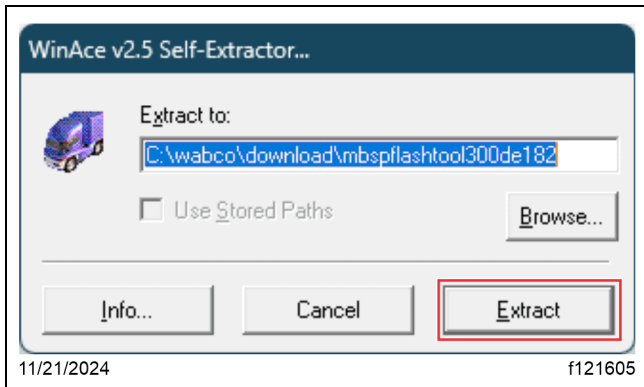
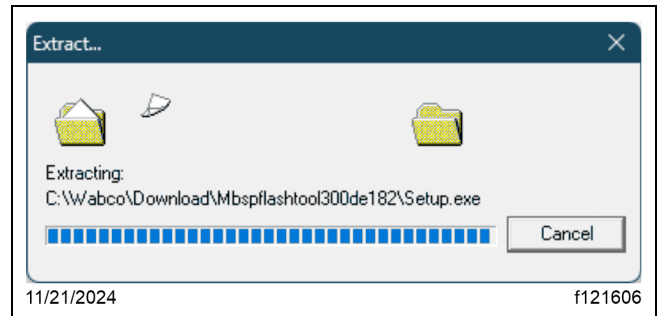

Fig. 29, WinAce v2.5 Self-Extractor Window
Fig. 30, Extracting the Setup File
7.2. The 'WinAce v2.5 Self-Extractor...' window opens. Select 'Extract.' See Fig. 29 and Fig. 30.